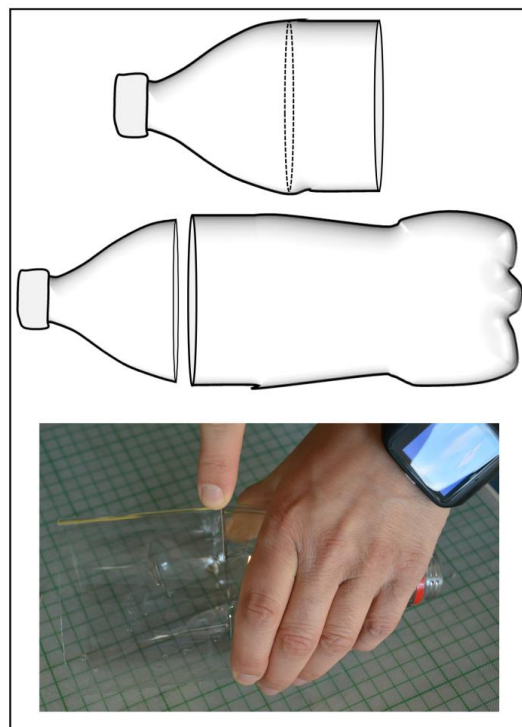

Figure 19
- Keep the bottom part intact. From the upper part cut and remove approximately half of it as shown in the Fig 19.